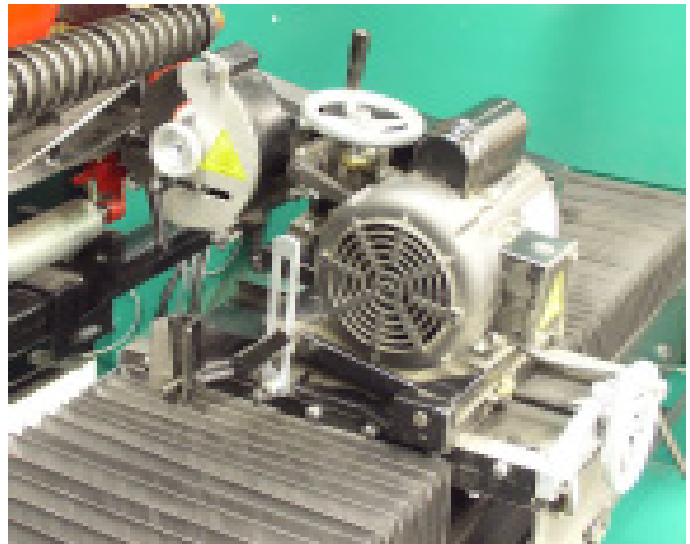

FIG. 67
E. Loosen the two (2) vertical adjustment lock handles on the carriage base. Use the vertical adjustment handwheel to raise the grinding head up approximately seven (7) turns so the reel blade can rest on the reel guide finger. It will be necessary to infeed the grinding wheel to accomplish this. See FIG. 67.
F. Adjust the position of the grind wheel to achieve the desired relief angle. (The average recommended manufacturer's angle is 20 to 40 degrees. Check with the cutting unit manual as to the exact angle required.) By looking down the reel from the operator's position you can see the reel blade and its relative position to the grinding wheel. By raising the grinding wheel you will decrease the relief angle and conversely by lowering the grinding wheel you will increase the relief angle. When the relief angle is correct, traverse the grinding wheel assembly to the right side of the reel. Retighten the two vertical adjustment (2) lock handles.